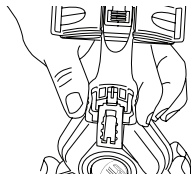

Figure 5
1. Open the headgear to a large setting and adjust the forehead arm (Figure 5) to the highest position. To adjust, gently squeeze the arms of the StabilitySelector and slide the arm upwards.